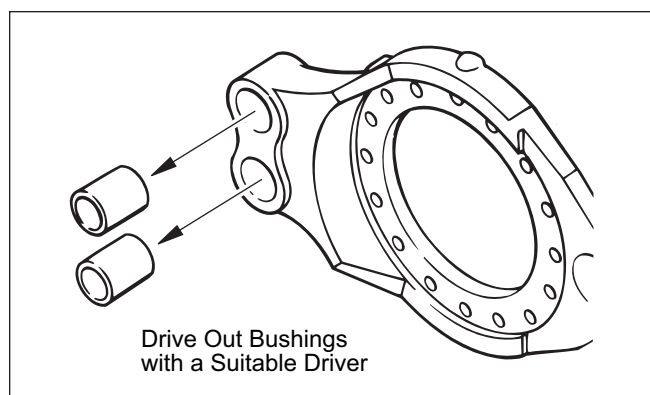

Figure 24. Anchor Pin Bushing Removal
10. If any noted conditions are found, drive out old anchor pin bushings from spider. Refer to Figure 24.